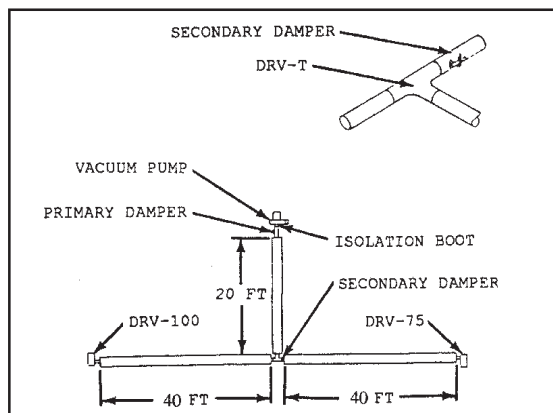

Figure 2.3
- The following is an example of how the above table should be used: A system containing a DRV-75 burner (gas input of 75 MBTU/H) and a DRV-100 burner (gas input of 100 MBTU/H) with equal lengths of radiant tube running to the vacuum pump from each burner. This system required a primary damper at the vacuum pump and a secondary damper before the tee (DRV-T) serving the lower MBTU/H heater as shown in Figure 2.3.